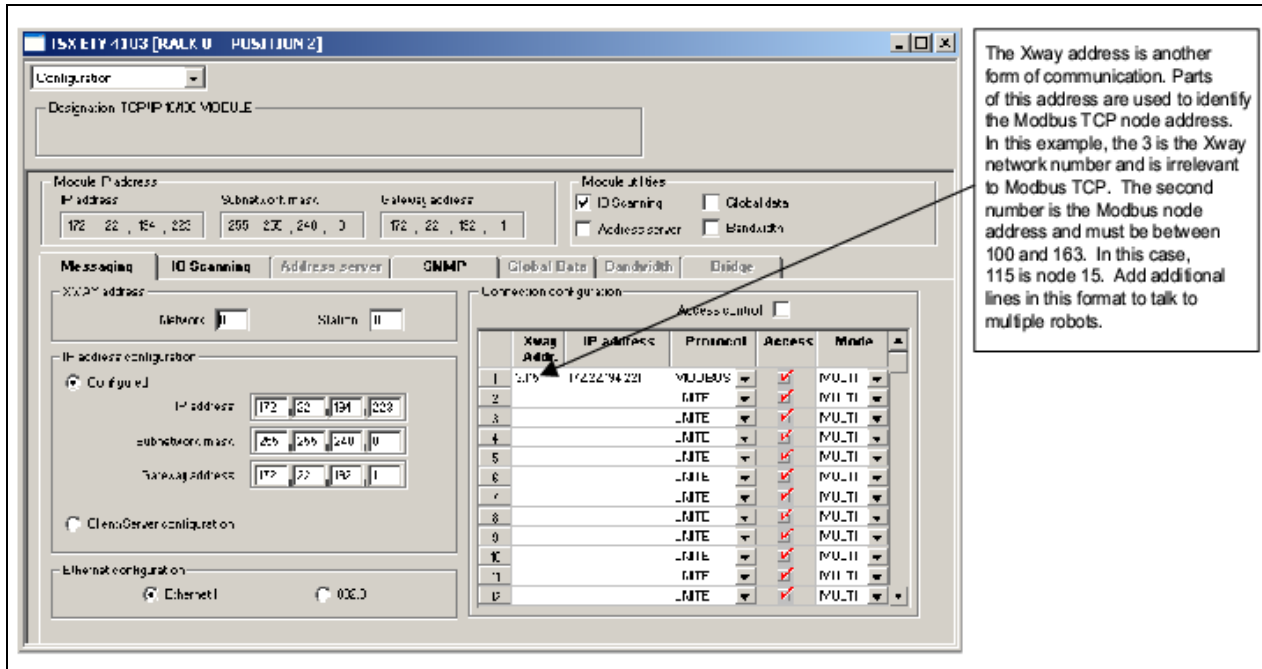

Fig. 3.2 Xway address
2. Configure the Xway address for your connection in the Connection Configuration section. See Fig. 3.2.